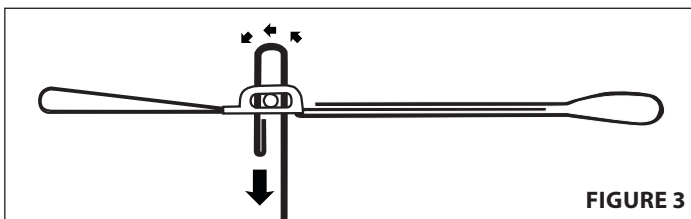

FIGURE 3
3. Feed end tail over roller bar and down through float buckle. **SEE FIGURE 3.**
4. Pull end tail away from float buckle. **SEE FIGURE 3.**